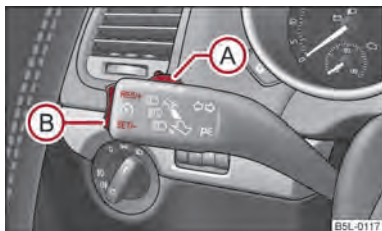

Fig. 104 Operating lever: Rocker button and switch of the cruise control system
The cruise control system is operated by means of the switch **(A)** ⇒ fig. 104 and the rocker button **(B)** in the left lever of the multi-functional switch.
- Press the switch **(A)** ⇒ fig. 104 into the position **ON**.
- You can **increase** the stored speed without depressing the accelerator, by pressing the rocker button **(B)** ⇒ fig. 104 in the **RES** position.
The **Resumption** of the stored speed is achieved by releasing the brake or clutch pedal, on vehicles fitted with automatic gearbox only after releasing the brake pedal and after shortly pressing the rocker button **B** → fig. 104 into the position **RES**.
- Press the switch **A** → fig. 104 to the right into position **OFF**.